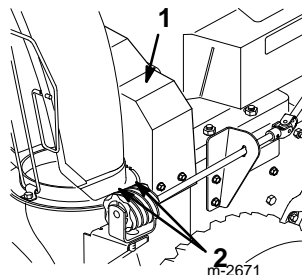

Figure 26
2. Remove the three screws that hold the belt cover in place and set the cover aside (Fig. 26).